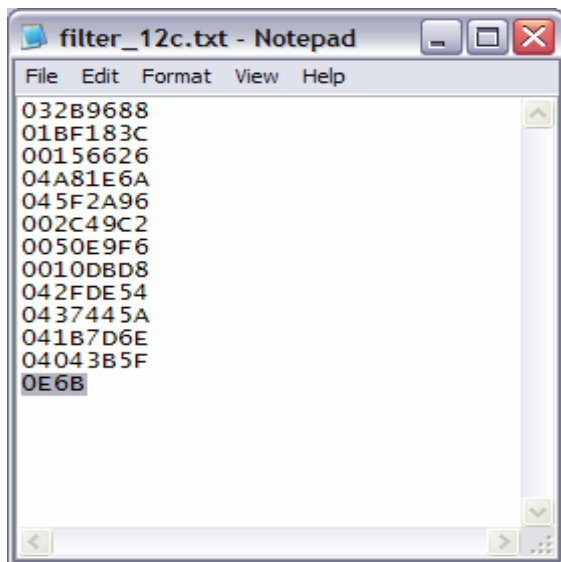

Figure 12. Example of format required for filter coefficients to be downloaded correctly.
- An example of this format is shown in Figure 12. This example corresponds to the example digital filter in the Downloading A User Defined Filter section in the AD7760/2 datasheet.